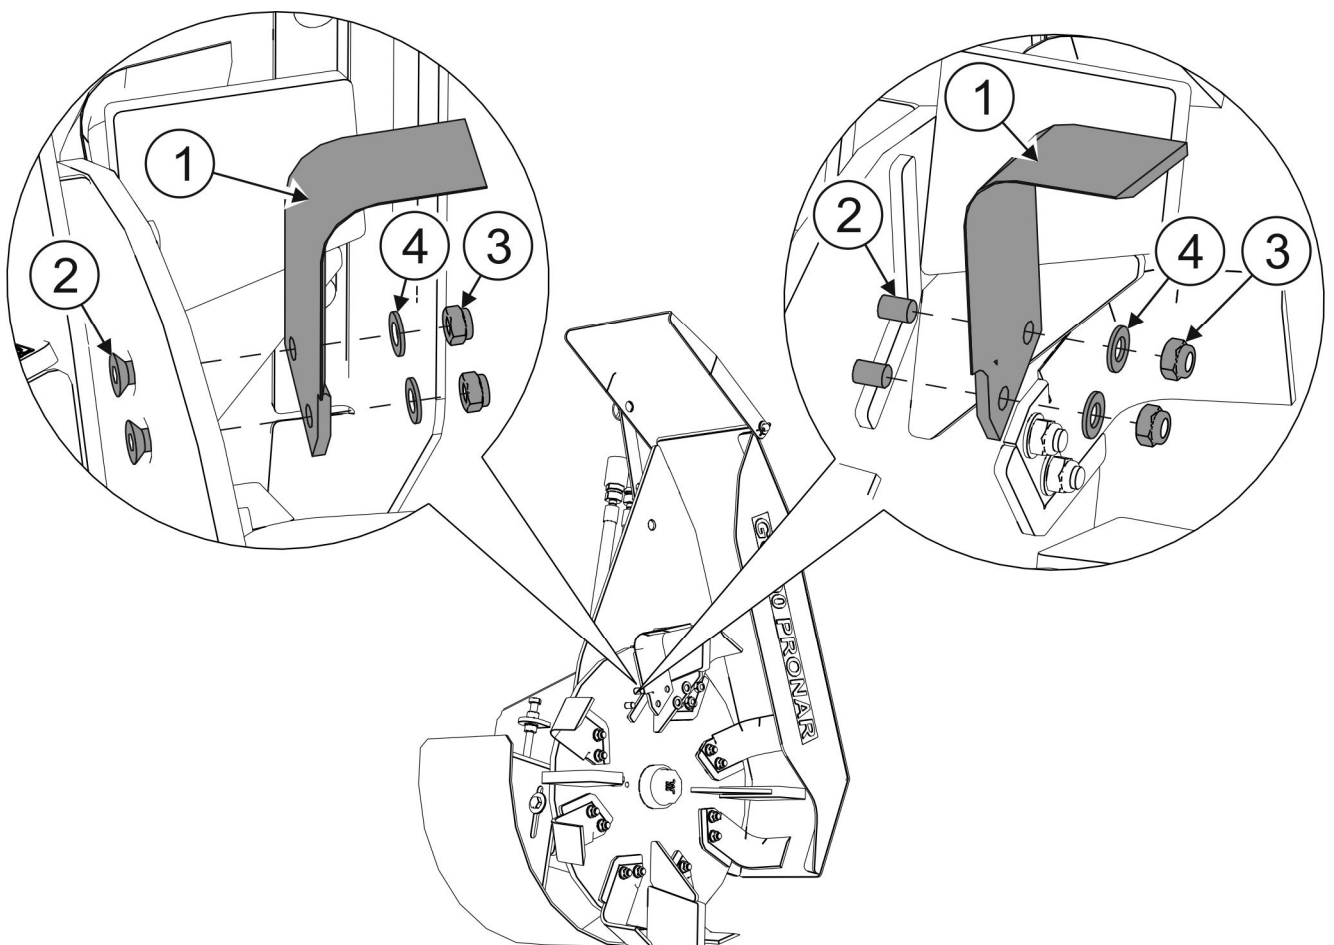

FIGURE 5.2 Replacement of cutting blades
(1) - left angled blade ; (2) - hexagon socket countersunk screw securing the blade ; (3) - self-locking nut; (4) - washer.
When replacing the blades (1) (FIGURE 5.2), pay attention to the condition of the bolts (2) securing the blade to the rotor disk. Excessively worn or damaged blade fixing bolt should be replaced with a new one of the same type. The threaded connection should be pre-cleaned and degreased with Loctite 7063, then secured with *Loctite 243* thread locker. Tighten the nuts (3) of the bolts (2) tightening the blade with a torque of 50 Nm.